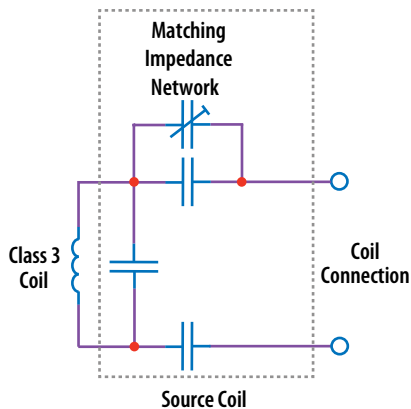

Figure 3: Diagram of the A4WP Class 3 Source Coil
3. Connect a LOW capacitance oscilloscope probe to the probe-hole J2 between the two eGaN FETs Q10\_x and Q11\_x and lean against the ground post as shown in Figure 3.
Figure 3 shows the schematic for the source coil which is Class 3 A4WP compliant. The matching network includes both series and shunt tuning. The matching network series tuning is differential to allow balanced connection and voltage reduction for the capacitors.
**NOTE.** When measuring the high frequency content switch-node (Source Coil Voltage), care must be taken to avoid long ground leads. An oscilloscope probe connection (preferred method) has been built into the board to simplify the measurement of the Source Coil Voltage (J2 and J3 as shown in Figure 3).